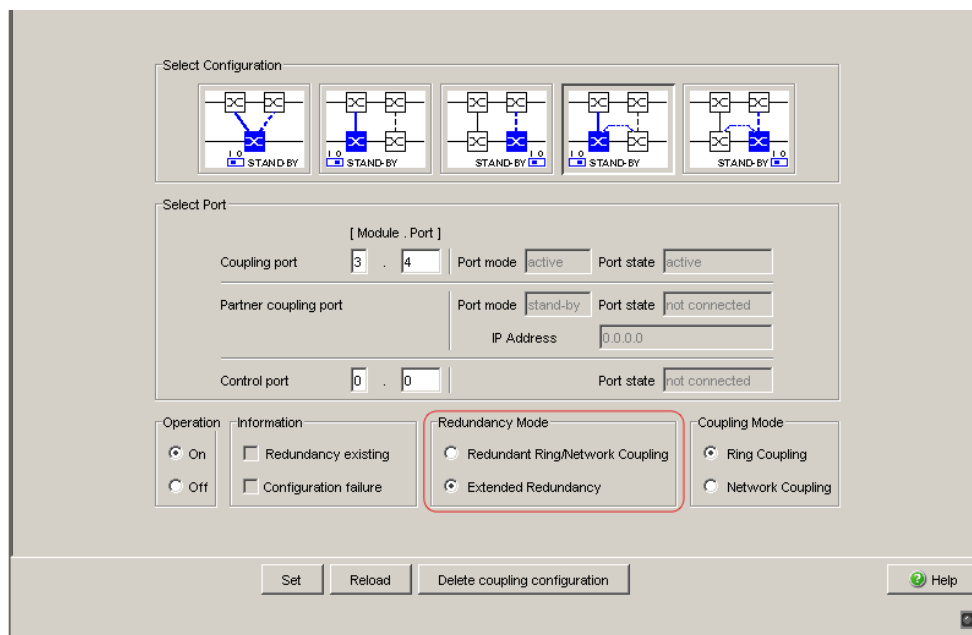

Figure 25: Selecting the redundancy mode
- ☐ In the “Redundancy Mode” frame, select (see fig. 25)